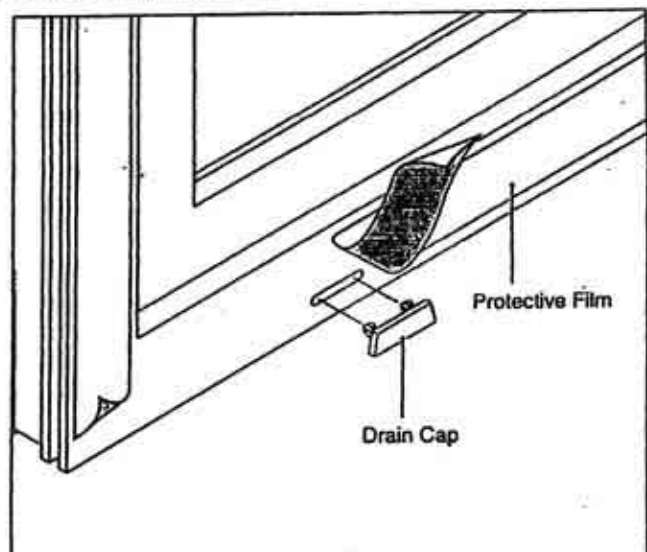

Figure 5-17. How to remove the protective film and install the drain caps — exterior view
- 4.11 Remove protective film from all profiles immediately after installation. See fig.5-17.